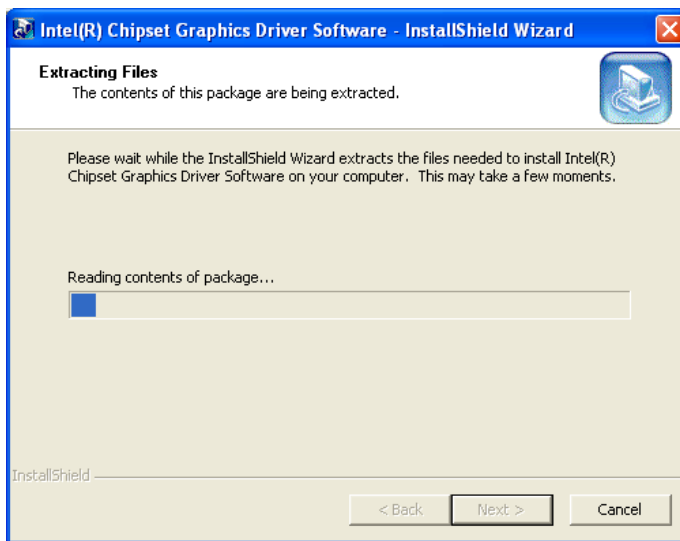

Figure 6-9: VGA Driver Setup Files Extracted
Step 5: The installation files are extracted. See Figure 6-9.